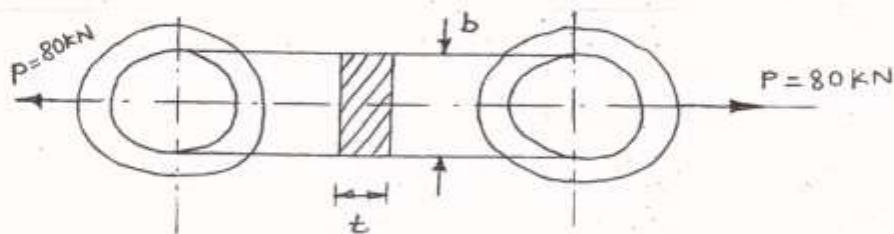

Fig. No. 2
- d) A M.S. link as shown in Figure No. 2 transmit a pull of 80 kN. Find the dimensions  $b$  and  $t$ , if  $b = 3t$ . Assume the permissible tensile stress as 70 MPa.